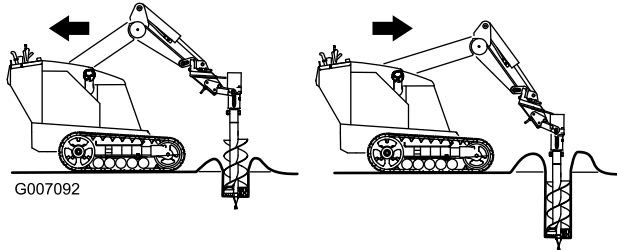

Figure 7
4. Lower the auger slowly as the soil is loosened. As you dig deeper, move the traction unit backward or forward as required to keep the auger vertical (Figure 7).